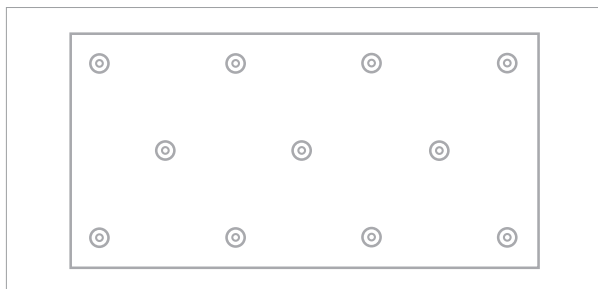
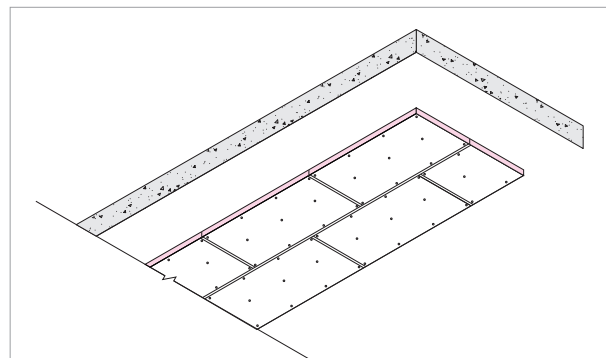
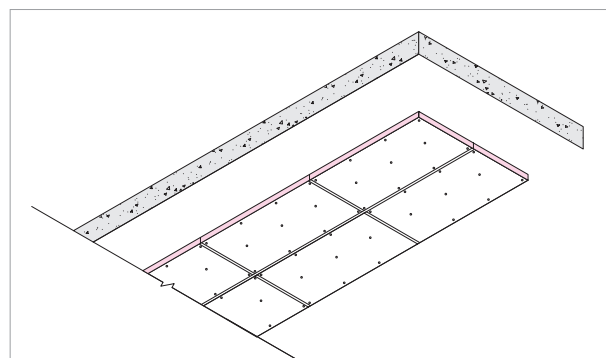

Figure 4. Fastener pattern (11 per board).
Figure 5. Board joints staggered.
Figure 6. Board joints squared.
2. Board joints can be either staggered (see Figure 5) or squared (see Figure 6) and taped with 96 mm wide white Kingspan Insulation Tape. Four fasteners along each length - no less than 50 mm - no more than 150 mm from edge of board, three fasteners along the middle (offset from edge positions as per diagram Figure 4).